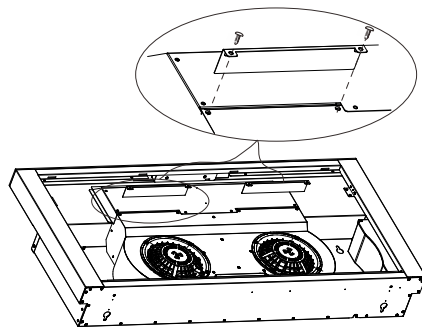

Fig.16
2. Make sure the transfer plate in correct position as below (Fig.16).